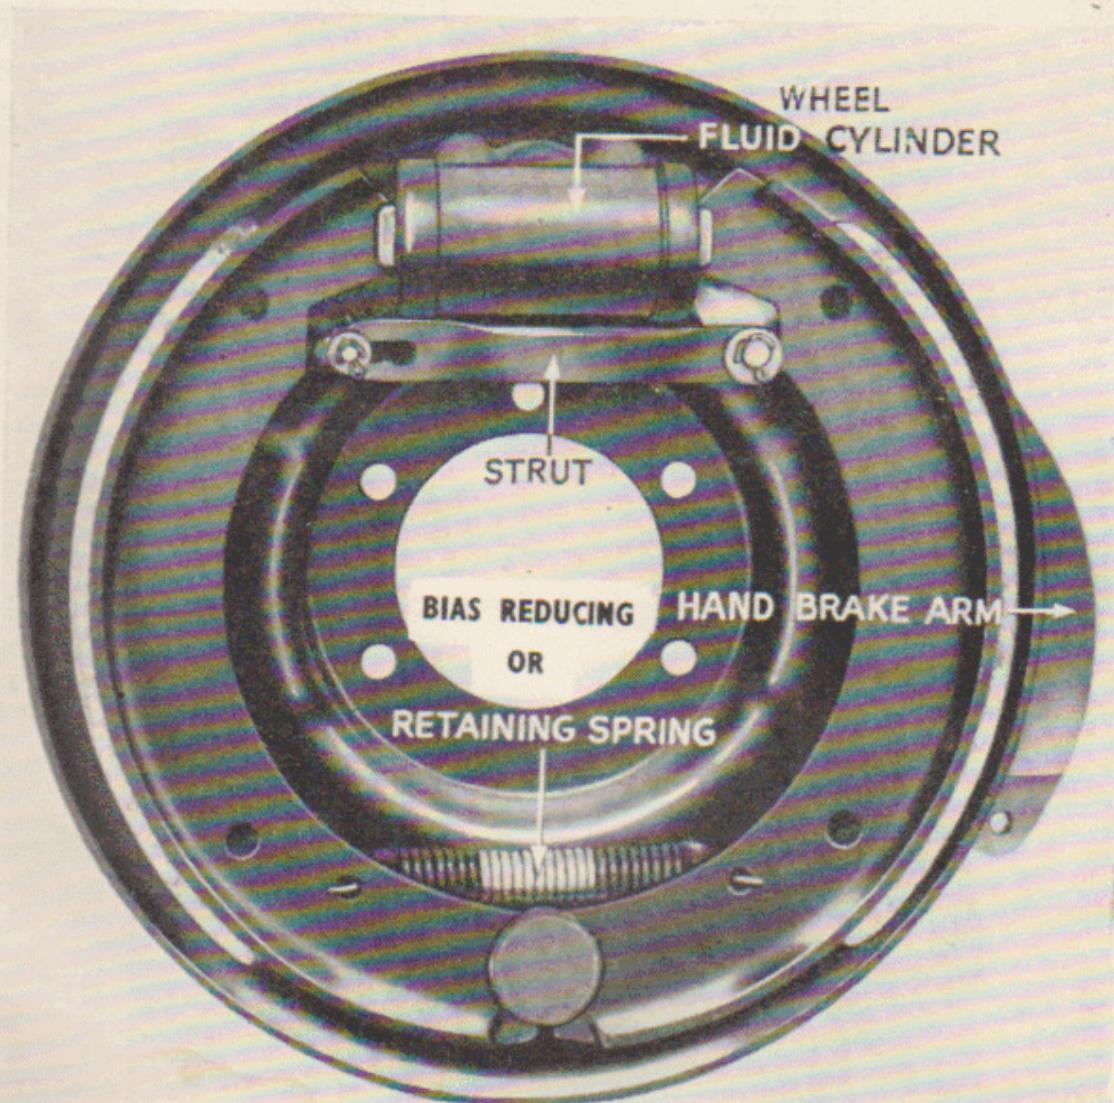

Fig. 43.
5. Hook the bias-reducing spring into the holes of the new FACTORY LINED REPLACEMENT SHOES, nearest to the pivot as shown in Fig. 43.
6. Expand the spring and fit the shoes to the back-plate. The shoes are interchangeable and when fitted to the back-plate ensure that the retaining spring lies on the "inside," between the shoes and the back-plate, see Fig. 43.